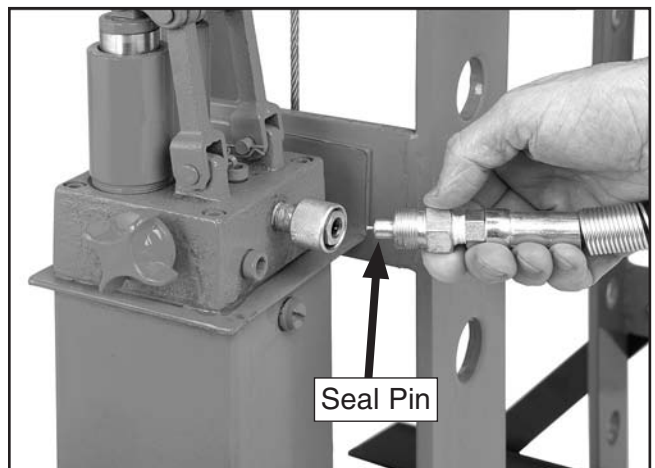

Figure 11. Hydraulic pump installation.
13. Connect the line to the port and thread the knurled nut onto the self-sealing hydraulic fitting. Do not use Teflon tape or thread sealant of any kind on this type of fitting, as it employs a seal pin design shown in **Figure 11**.